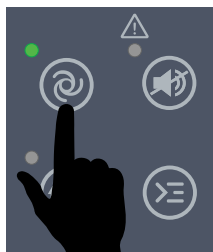

Figure 61. Auto Mode Button
2. Press the **Auto Mode button** (Figure 61) on the digital controller.